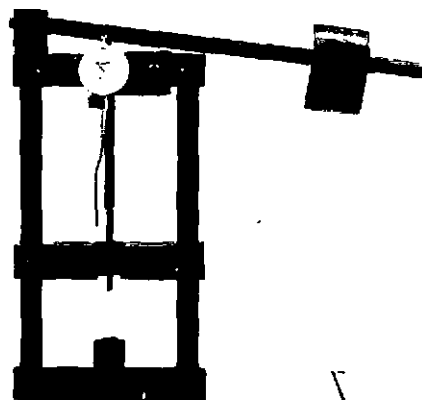

Fig. 4-1. 3375160 Top Stop Setting Fixture
1. The top stop setting fixture is used to set the plunger travel of the PT (type D) top stop injector, Fig. 4-1.